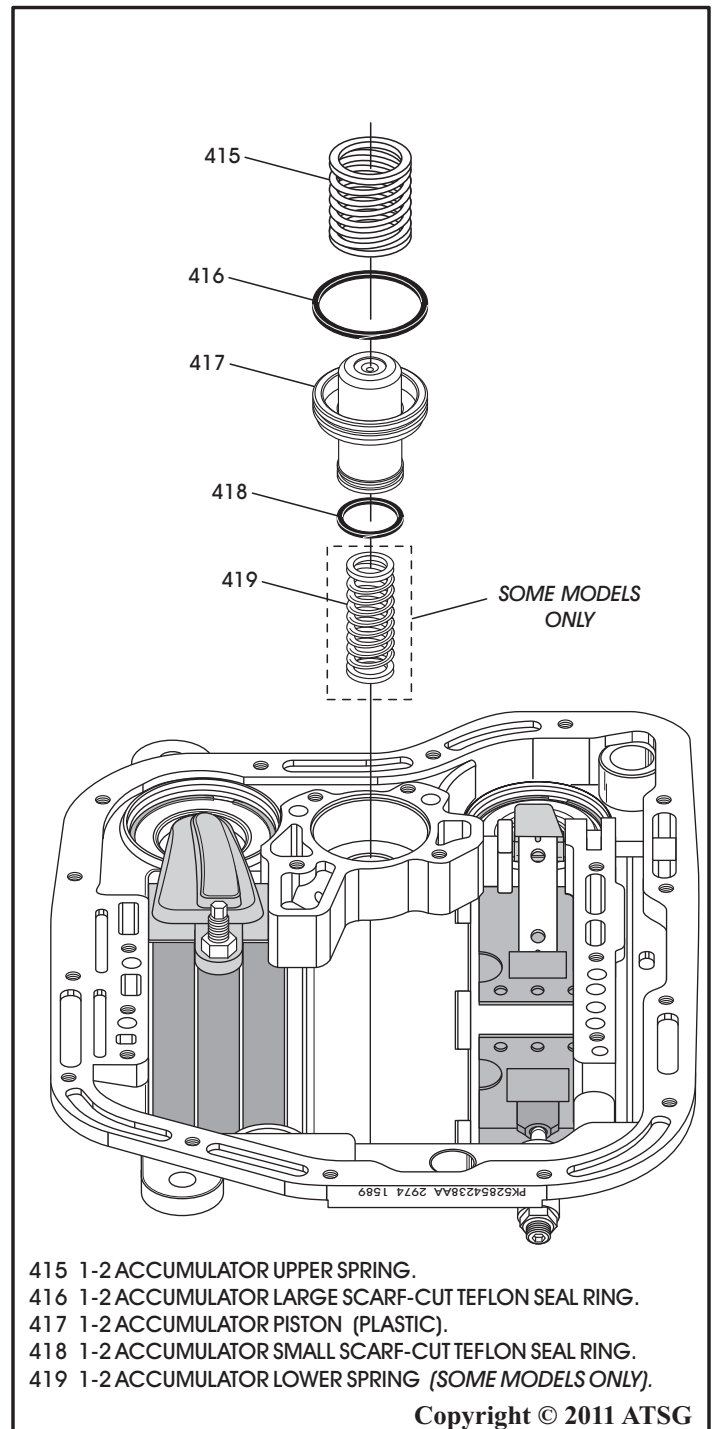

Figure 226
23. Install new seals on the 1-2 accumulator piston, as shown in Figure 226, and lube with a small amount of Trans-Jel®.
24. Install the 1-2 accumulator piston and springs, as shown in Figure 226.